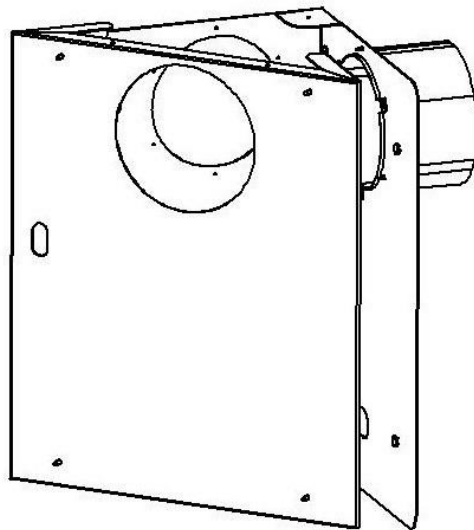

Fig. 4
**Step 4:** Having secured the wall plate to the wall fit the diagonal mounting plate as shown in Fig. 4. Please ensure that all four mounting pins are fully engaged in the 4 keyway slots.